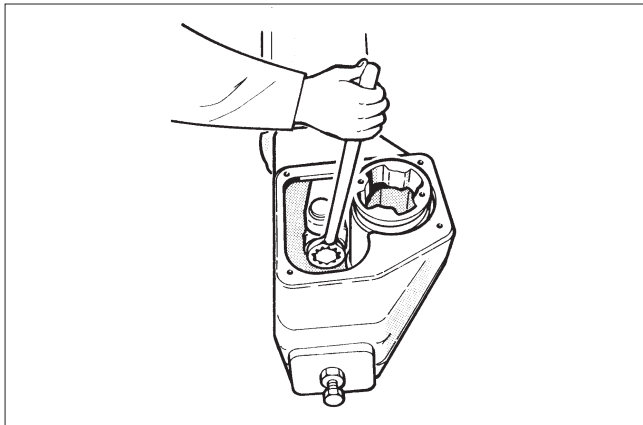

Fig. 10 Opening the fastening screw of the actuator bearing unit
- Remove the cylinder end side stop screw (26).
- Remove cylinder end (44).
- Remove housing cover (2).
- Unscrew the bearing screw (29) and the cylinder fastening screws (31) from the cylinder base (6) side, see Fig. 10. If the piston turns, do not prevent the turning with the piston fastening nut; send the entire actuator to the manufacturer to be repaired.
- Remove cylinder end side stop screw (26).
- Open bearing unit (5) fastening screw (29). See Fig. 10.